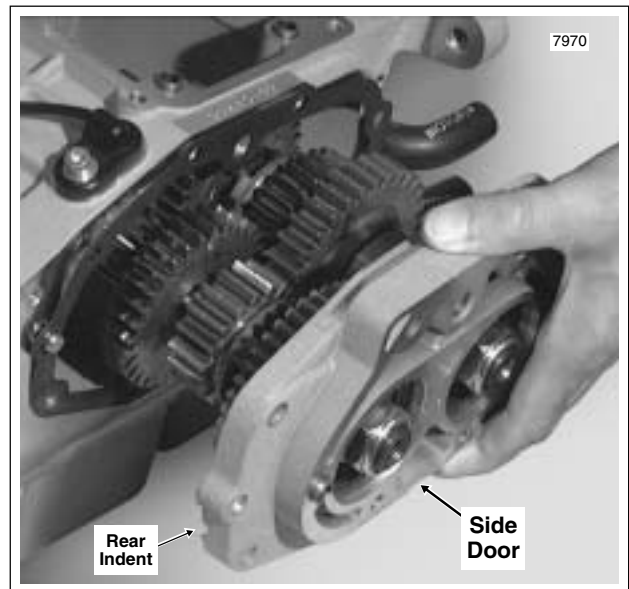

Figure 7-19. Remove Transmission Side Door
9. Remove the six socket head screws (bottom four with flat washers) to free both the side door and transmission exhaust bracket from the transmission case. Pull the side door, mainshaft and countershaft from the transmission case as a single assembly. Remove and discard the door gasket. See Figure 7-19.
DO NOT USE A HAMMER TO REMOVE THE SIDE DOOR. If the side door sticks or binds on the locating dowels, gently pry open using the indents at each side of the door. See Figure 7-19.
1. Verify that the two locating dowels are in place on the right side of the transmission case. Hang a **new** gasket on the dowels. Install the assembled side door in the transmission case. See Figure 7-19.